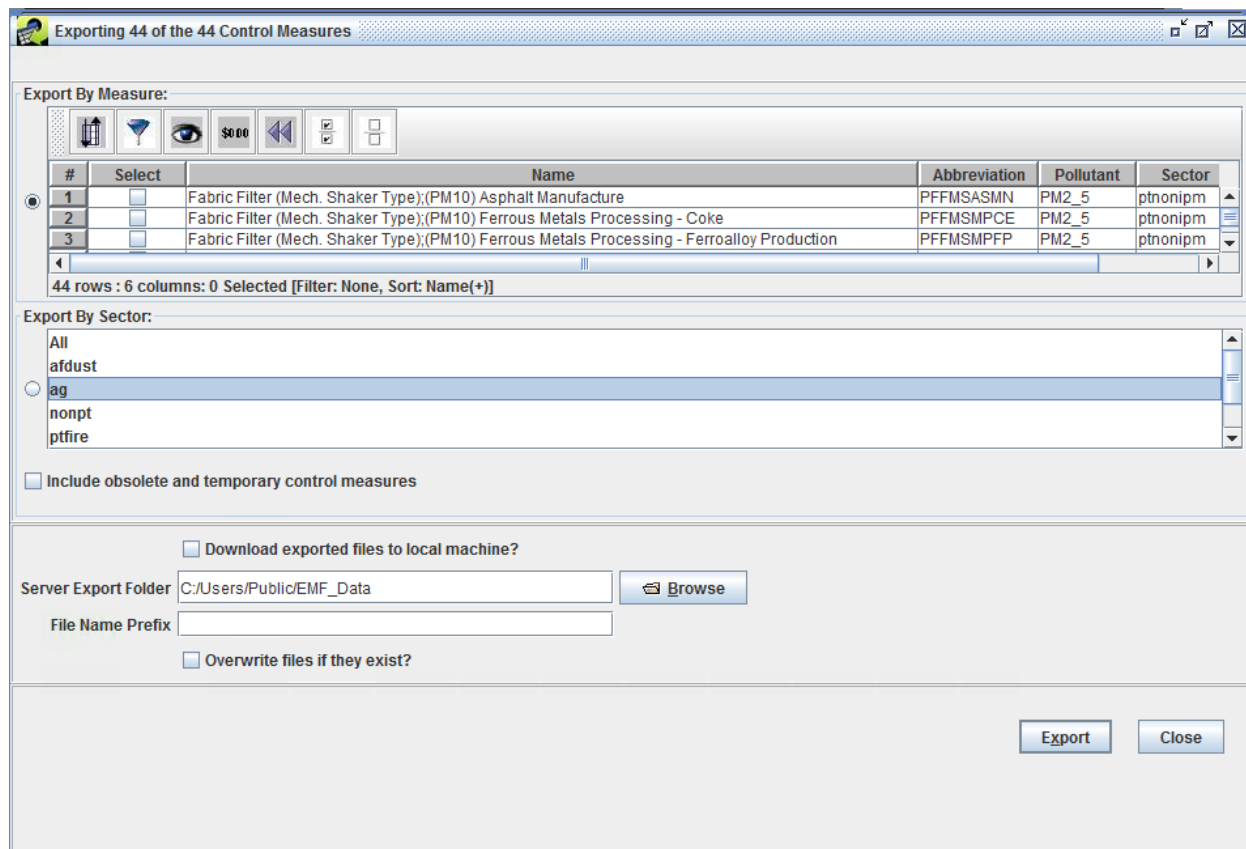

Figure 3.28: Exporting Control Measures Dialog
Click the **Select all** button on the Control Measure Manager toolbar, and then click the **Export** button. The Exporting Control Measures window (Figure 3.28) will appear.
Step 9-3: Import Control Measures. If logged in as Administrator, click the **Import** button on the Control Measure Manager to start importing measures. In the **Import Control Measures** window that appears (Figure 3-28), type or paste the name of the import **Folder**. You may also use the **Browse** button to browse to a folder containing the files to be imported and select the files directly from the browser. Alternatively, enter the folder name and then type in a **pattern** to specify the files, then click **Apply Pattern**. When using a pattern, an asterisk (*) will be expanded to the available file names.